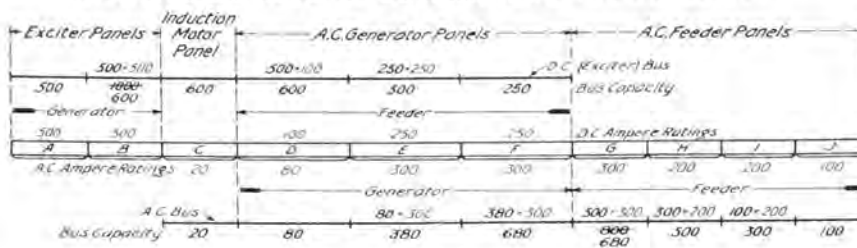
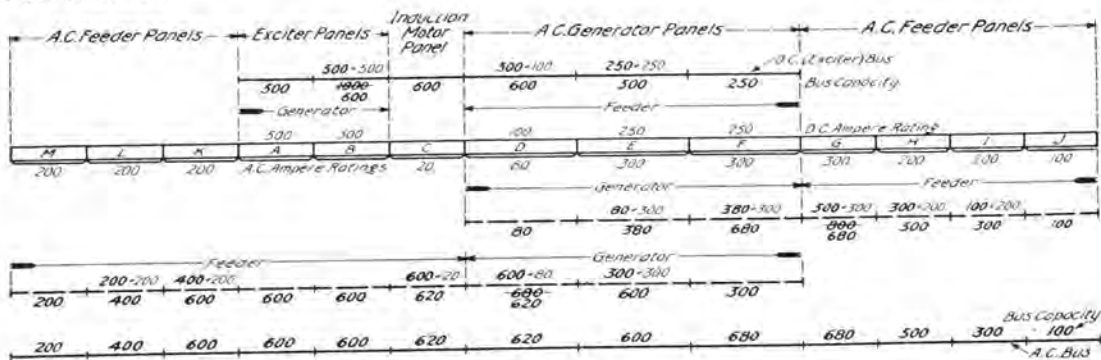

Fig. 1
Fig. 2
Fig. 1 illustrates a simple diagrammatical method of determining the ampere capacity of bus required for any panel. The method is as follows:
- 5—Apply the following rules *consecutively*, and note their application in Fig. 1. (For the sake of clearness ampere ratings are shown in light face type and bus capacities in bold face type.)
- (c) Bus capacity for each succeeding panel = Ampere rating of panel *plus* bus capacity for preceding panel. (See sums marked above the buses in Fig. 1.)
The arrangement of panels shown in Fig. 1 is the one which is mostly used. The above method may, however, be applied to other arrangements, one of which is shown in Fig. 2. Here the generators must feed both ways to the feeders at either end of the board so that in determining A.C. bus capacities it is necessary to first consider the generators with the feeders at one end, and then with the feeders at the other end as shown by the dotted A.C. buses. The required bus capacities are then obtained by taking the maximum values for the two cases.